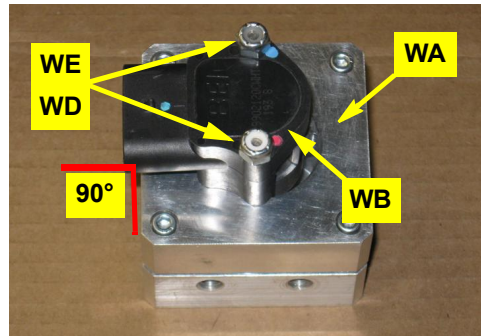

Figure 1a: Prepared WAS housing/connector
- a. Using the provided hardware **WE** (nuts) and **WD** (bolts - not visible), attach the WAS wire connector **WB** to the WAS housing **WA**. Install the bolts up through the bottom of the housing. The WAS wire connector **WB** can be mounted 90° to any of the WAS housing **WA** sides (Figure 1a).
- a. Remove the top, then bottom front steering column panels (nearest the windscreen) to expose the steering shaft (Figure 1a).
Figure 1a with inset: Steering column covers removed